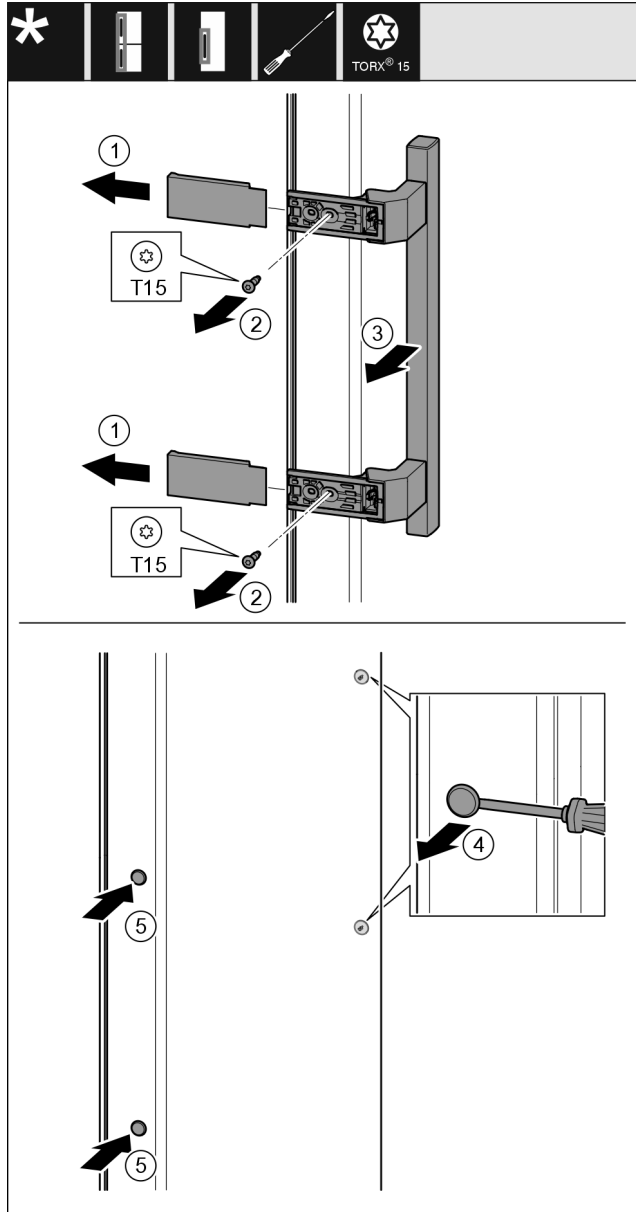

Fig. 19
- ▶ Remove the cover Fig. 19 (1).
- ▶ Unscrew screws Fig. 19 (2) with screwdriver.
- ▶ Remove the handle Fig. 19 (3).
- ▶ Use a slotted screwdriver to lift the side plug Fig. 19 (4) carefully and pull it out.
- ▶ Re-insert the plug Fig. 19 (5) on the other side.